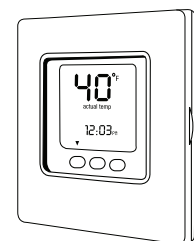

Fig. 4 – Lowest Temperature Setting
1. Set your room thermostat to the lowest temperature setting (see Fig. 4).
- Set your room thermostat to the lowest temperature setting (see Fig. 4).